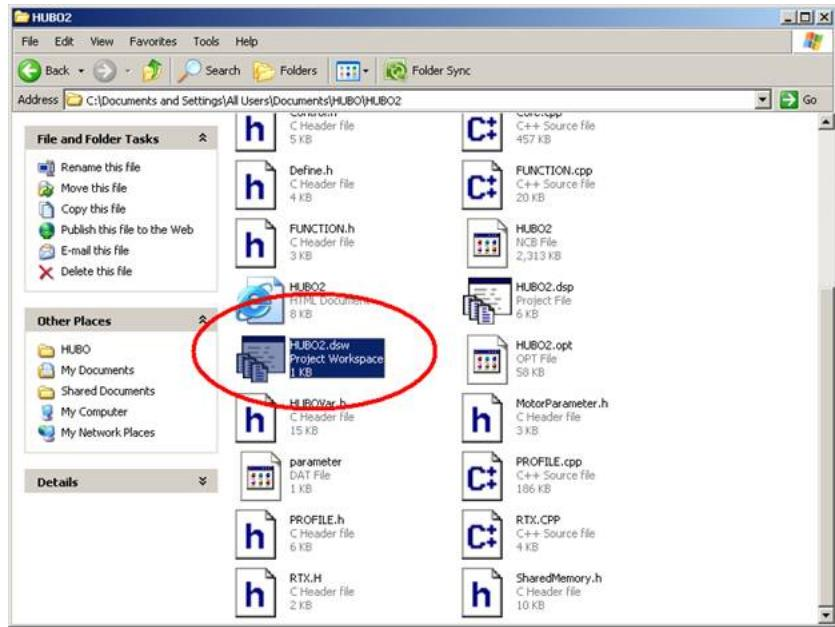

Figure 28: Open HUBO2.dsw
2. Open HUBO2.dsw in the project you just incremented the version number in, see Figure 28.